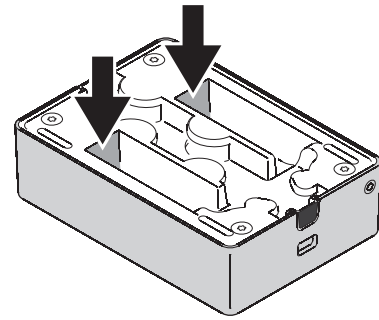

Figure 4: Use either connector in the back of the Light Fox
1. Run an RJ-45 straight-through patch cable (**A**) from the **PWR LAN-OUT** socket on the PSU to either of the two sockets on the Light Fox shown in Figure 4 and secure the Light Fox in its mounting bracket, if used.